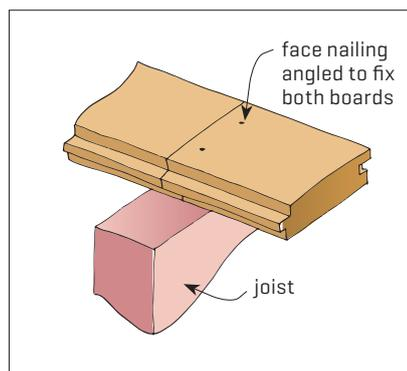
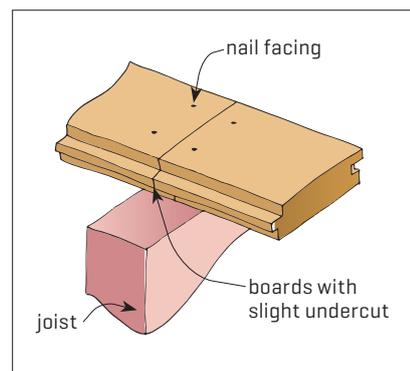

Figure 7. Splayed end joint.
Figure 8. Undercut plain end joint.
**3.3.6** Note that past practices allowed joints to be splayed, allowing each nail to provide fixing to both boards [Figure 7]. Some floors may also have had undercut joints [Figure 8].